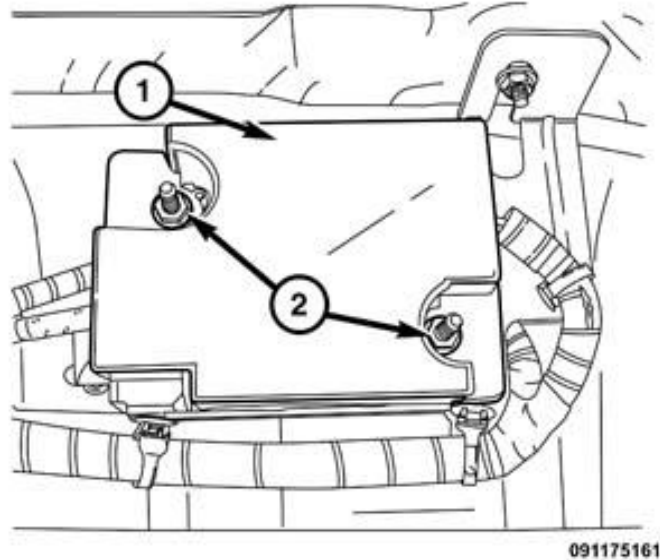

Fig. 15 Module Cover
28. Remove the nuts (2) and NOx and Particulate Matter (PM) sensor module cover (1) (Fig. 15).